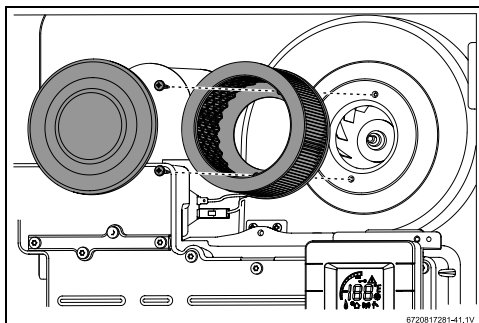

Fig. 40 Remove/assembly air filter
- Verify if the air filter is clean and undamaged. The air filter is attached to the fan assembly, see fig. 40.